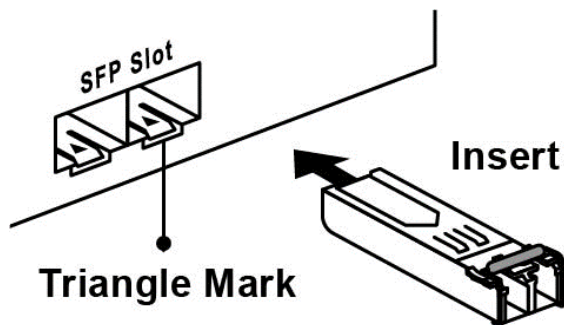
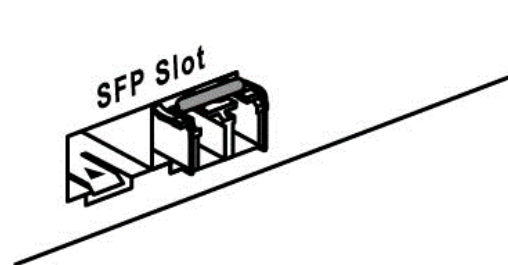

Figure 2.4: Transceiver to the SFP Module
Figure 2.5: Transceiver Inserted
**Step 1** Insert the SFP transceiver module into the SFP slot as shown below in Figure 2.4. Notice that the triangle mark is at the bottom of the SFP slot. Figure 2.5 shows SFP transceiver module was inserted.